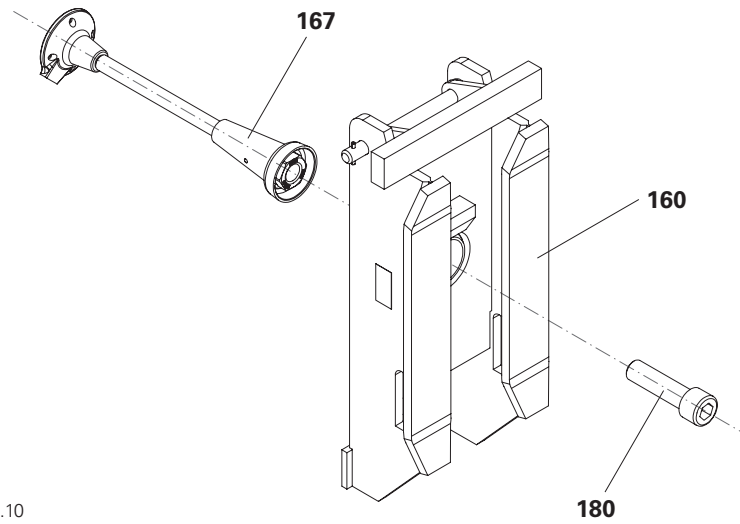

Fig. A3.10
1. Screw Climbing Shoe-2 I ACS (**160**) with cyl. bolt ISO 4762 M30 x 110-10.9 (**180**) to climbing tie (**167**). (Fig. A3.10)